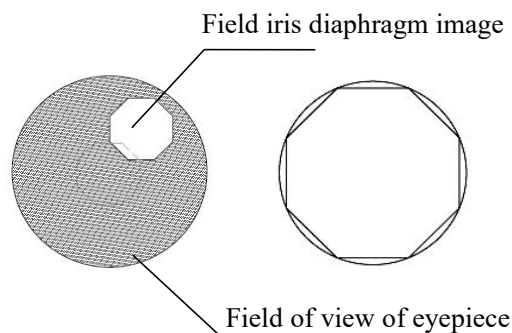

Fig.24
- 6) Open the field iris so that its image is almost the same size (Figure 24) as the field of view.